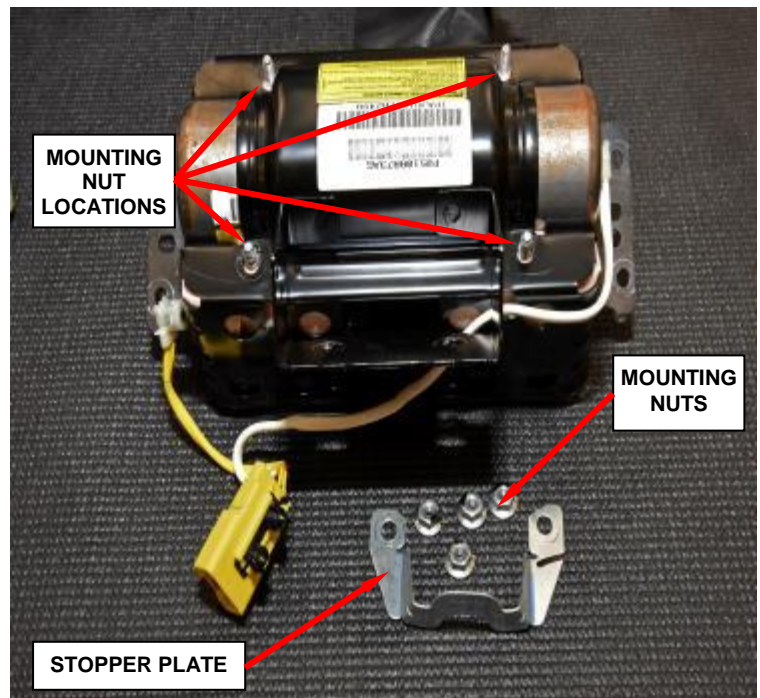

Figure 79 – Mounting Nuts and Stopper Plate
- e. Remove and **discard** the four inflator mounting nuts (Figure 79).